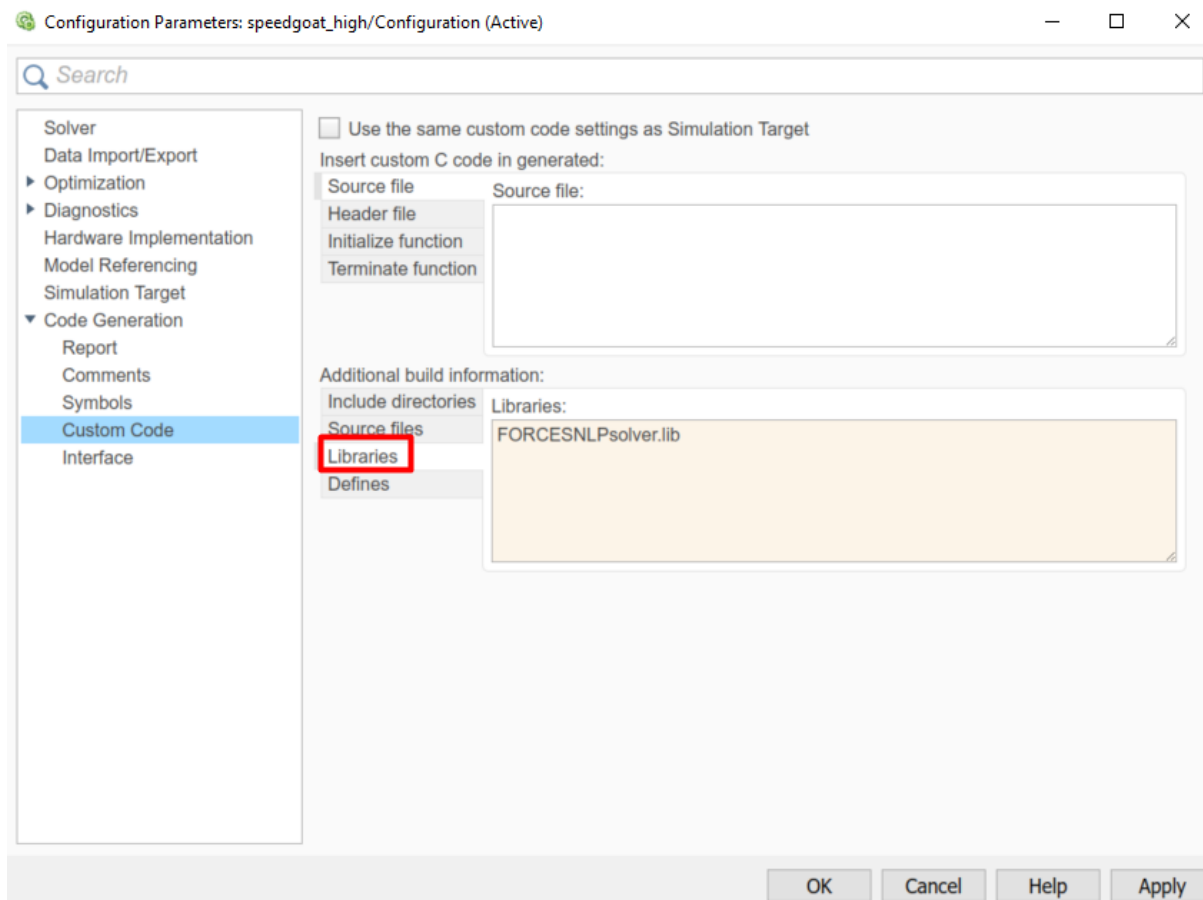

Figure 13.71: Add the libraries used for the code generation.
12. (Figure 13.71) In the “Code Generation/Custom Code” tab, add the library file: